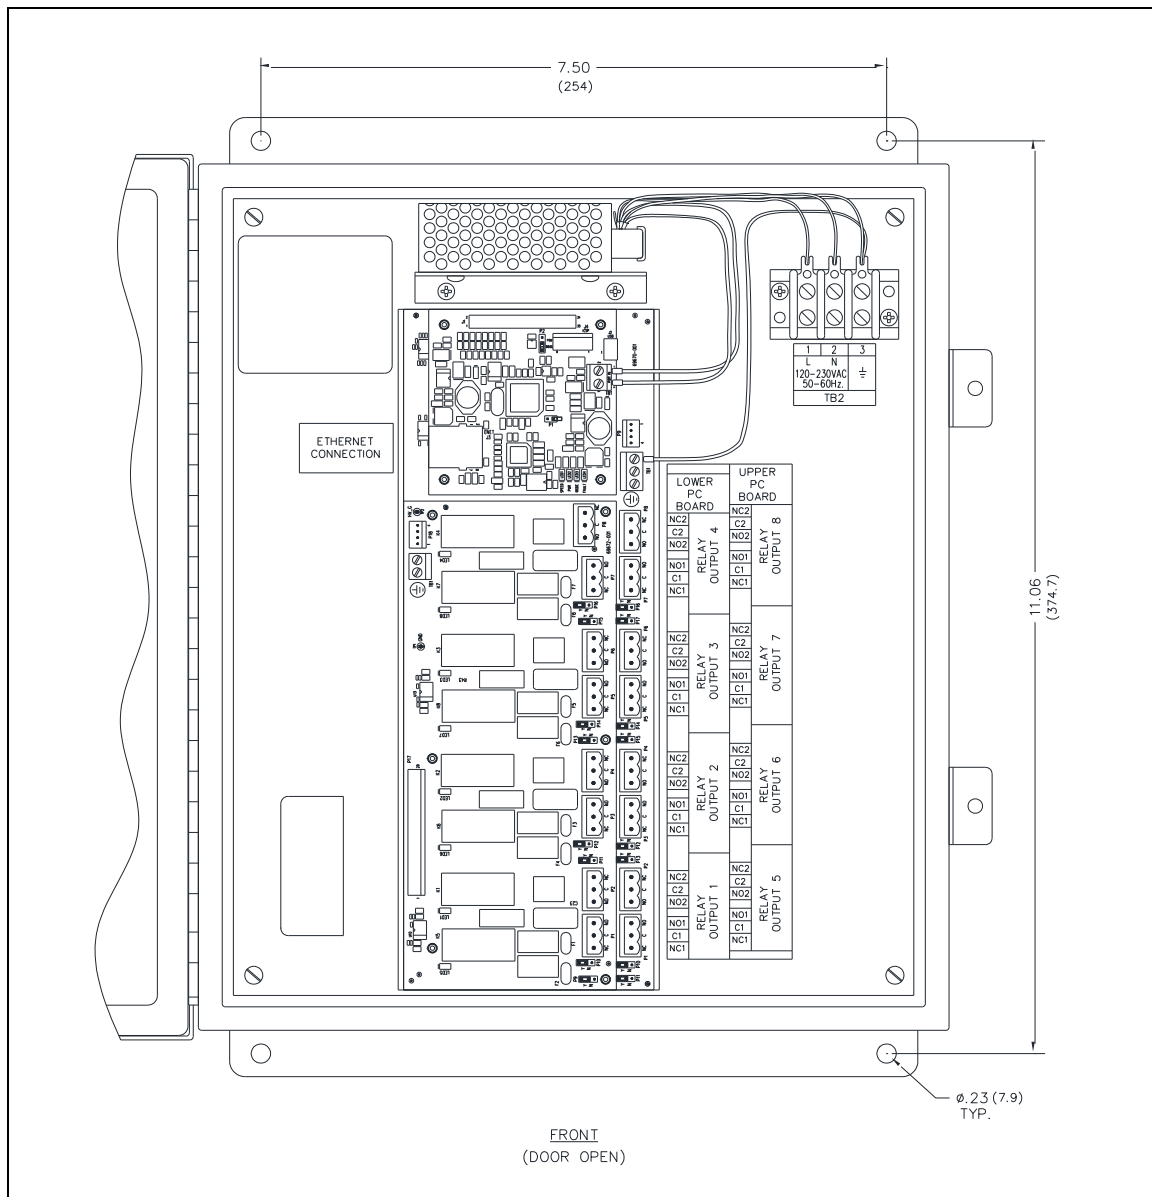

Figure 1. Model 379-004 E3 IP Strobe MRM Station (Interior View)
The No. 12579-005 E3 IP Strobe MRM has three components (see Figure 1):
2. Mount the enclosure to a suitable surface using appropriate (customer-supplied) hardware (see Figure 1 for mounting hole dimensions).
Connect 120 to 230 V ac power to terminal block TB2, at the top of the panel (see Figure 1).
Plug the Category 5 or better Ethernet cable with RJ45 plug from the E3 network into the RJ45 jack, located on the CPU PCBA (see Figure 1).